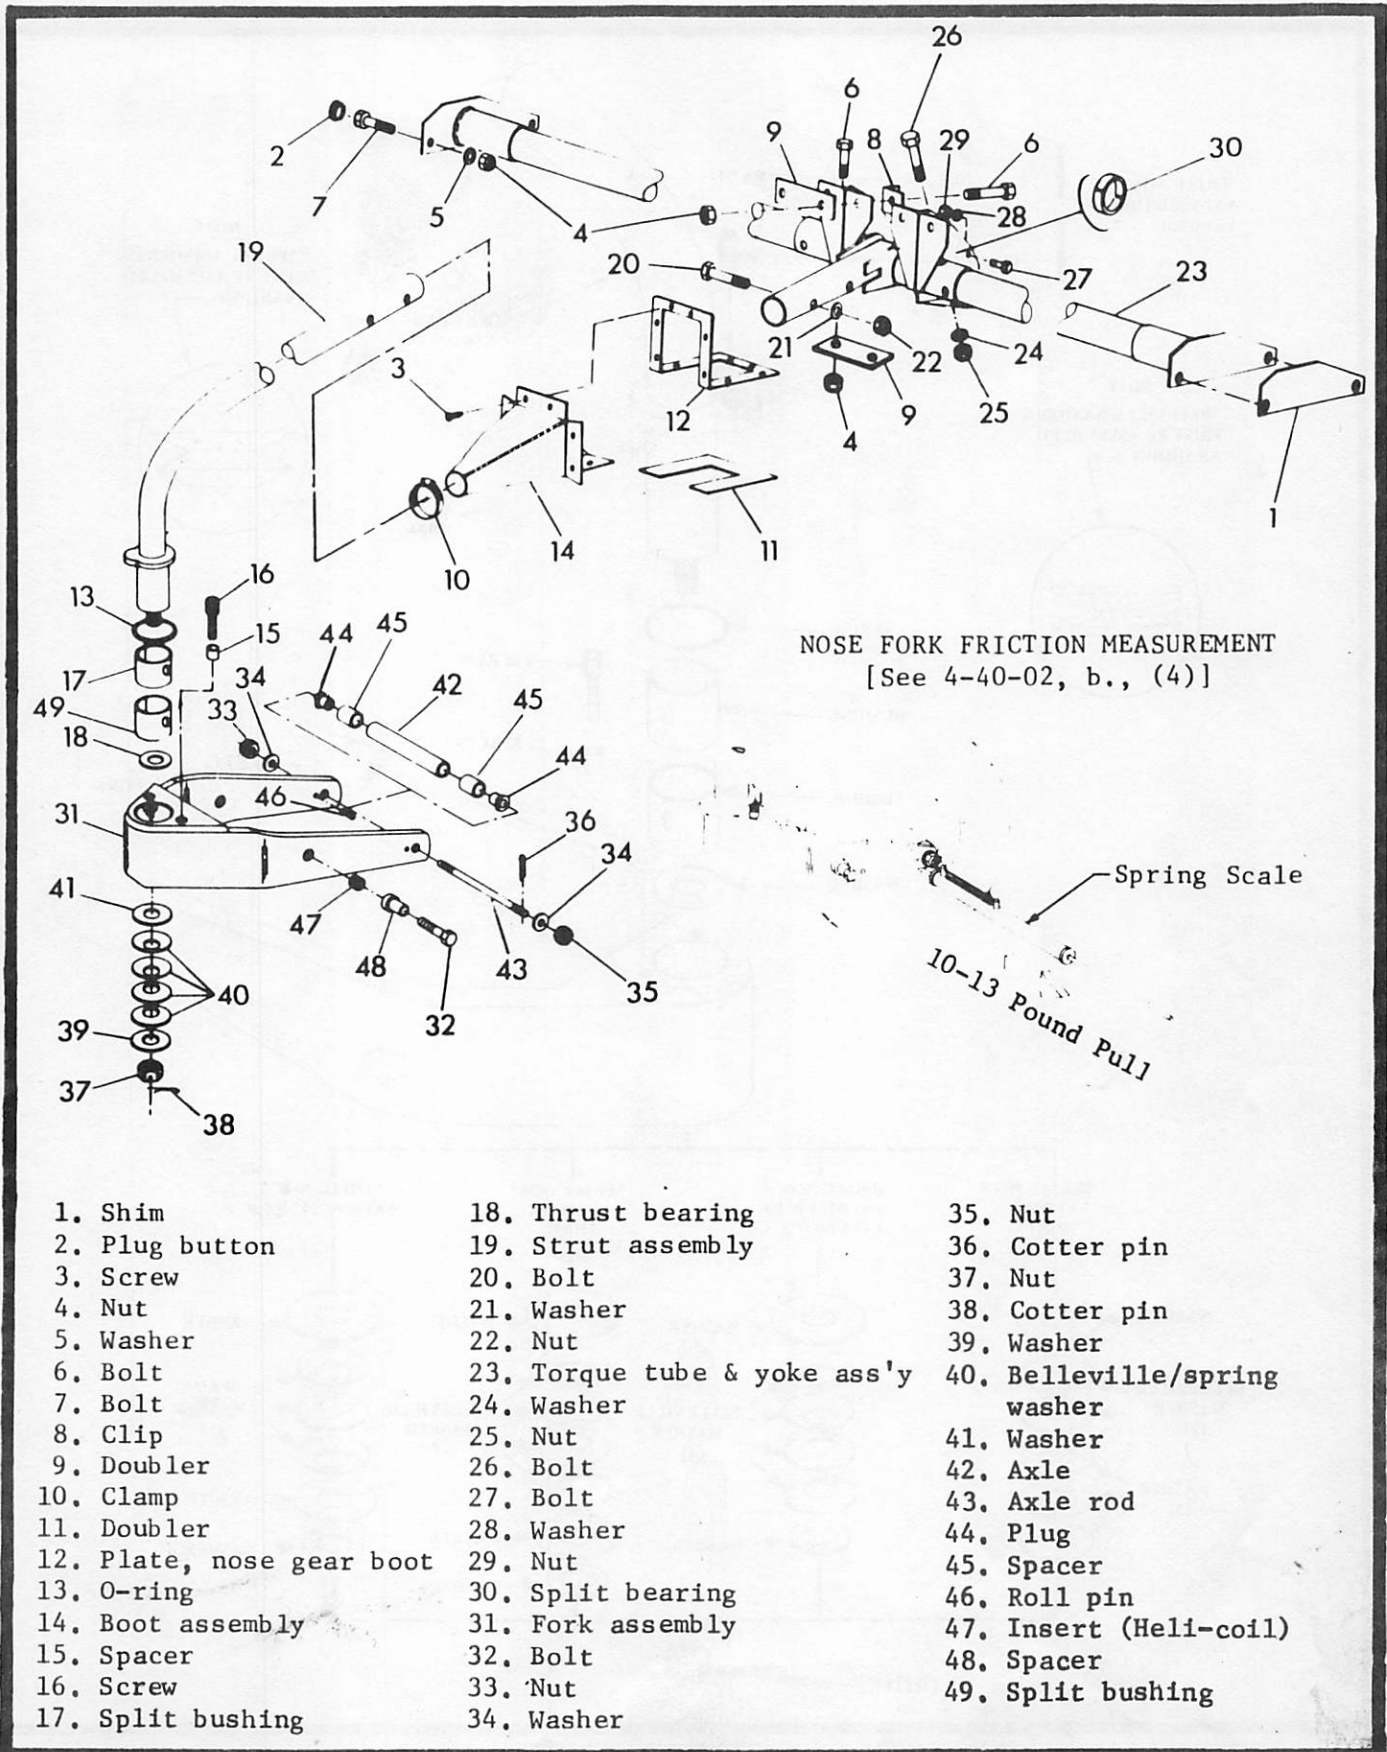

Figure 4-4. Nose Landing Gear Assembly, exploded view
- (1) Remove the weight from the nose gear by either tying down the tail or placing a suitable support under the front of the fuselage.
- (2) Remove the cotter pin, (38, Figure 4-4), nut (37) washers (39, 40 & 41), and nose fork (31) from the strut (19).
- (3) Remove the nose gear boot clamp (10), boot to fuselage attaching bracket (12), and slide boot (14) down nose gear strut (19).
- (4) Remove the attaching bolts (20) and slide the strut (19) from the torque tube and yoke assembly (23).
- (3) Remove the fuel gauge moldings and the upholstery side panels and fiberglass insulating material from the left and right hand forward inside panels by removing the sheet metal screws that attach these parts to the side panels. Do not disconnect any wiring from the fuel gauge covers; simply drape the covers over the outside of the fuselage protecting the wing root surface from scratching with a suitable cloth.
- (4) Remove the upper and lower cowling (See Section 3-40-01).
- (5) Disconnect the rudder return springs by unbolting the eye bolts from the forward face of the firewall. Note that additional washers are used under the left hand eye bolt for proper rudder pedal centering and rudder trim.
- (6) Remove the nuts that secure the right forward rudder bar attach bracket to the floor. Lift the rudder bar up and aft to provide clearance for removing left brake cylinder attach bracket on co-pilot's side from the floor.
- (7) Remove the nuts that attach the brake cylinder brackets to the floor. Lift brake cylinders free from the floor and allow pedals to rotate aft.
- (8) Remove clevis pins from left and right brake cylinder attachment to rudder pedals on pilot's side.
- (9) Disconnect one end of the parking brake chain by cutting the wire which attaches it to the link on the master cylinder (pilot's side).
- (10) Move the left and right master cylinders on the pilot's side up as high as possible and against the firewall and secure them temporarily in this position.
- (11) Remove the screws and nuts which attach the throttle cable clamps to the instrument panel brace.
- (12) Remove the nuts that attach the T-column support to the floor. Lift the T-column and support assembly from the studs which protrude through the floor and allow the assembly to come as far aft as possible.
- (13) Remove the bolts (6, Figure 4-4) that secure the center torque tube assembly bearing supports to the floor and firewall.
- (1) After the torque tube (23, Figure 4-4) is installed in the fuselage, but before the mounting bolts (6 & 7) are installed, slide the torque tube assembly (23) to one side of the fuselage and note the clearance between the other end of the torque tube assembly and the inside of the lower engine mount extrusion. The torque tube fit is to be adjusted by using one of the various thickness shims (1). Shim as required to arrive at a minimum clearance between the torque tube end fittings and the lower engine mount extrusions.
- (2) Torque the center torque tube bearing support bolts (6) at the firewall and the cabin floor to 185-195 inch pounds and torque the bolts (7) that attach the ends of the torque tube assembly to the fuselage sides to 300-350 inch pounds.
- (3) Install the lefthand brake cylinder attach bracket on the copilot's side before installing the forward rudder bar or sufficient clearance will not be available under the rudder bar to install the brake cylinder bracket rear retaining nut and washer.
- (4) Attach the left and right brake cylinder, on the pilot's side, to the floor, then attach the parking brake chain to the parking brake link on the master cylinder. Use .032-inch stainless steel safety wire and make a double loop through the link and through the chain. Install the two clevis pins which attach the left and right rudder pedals on the pilot's side to the master cylinders.
- (5) If the upholstery side panels and fiberglass insulation have been removed from the forward cabin area, the fiberglass insulation may be recemented to the fuselage side skin with Uniroyal 6306 adhesive or equivalent. This adhesive may also be used to recement the floor covering to the fuselage floor where it has been pulled loose forward of the rudder bars.
- (3) When installing the nose gear boot (14), apply sealant\* to all mating surfaces of the boot assembly, honeycomb and firewall.
- (4) Refer to Figure 4-4A for proper installation of Belleville/spring washers when attaching the nose wheel fork to the strut. Tighten nut (37) until a 10-13 pound drag is attained at the axle centerline when the fork is rotated. See Figure 4-4 inset. The cotter pin (38) must be in place for this measurement.